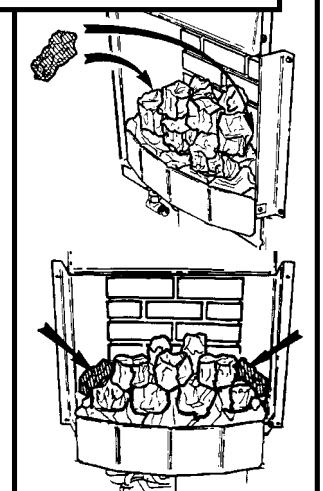

Fig 38 Small side coals
**4.3** Place the two remaining small coals alongside the main coals (See figure 38)